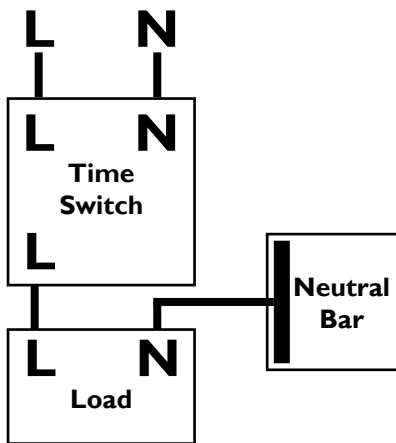

Figure 18: DB wiring
3. Connect the time switch according to figure 18 or 19.